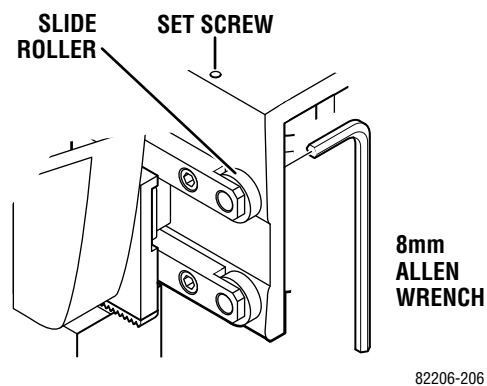

Figure 2-7.
2. Loosen the adjustment cam set screw and adjust the roller using an 8mm Allen wrench. See figure 2-7. To avoid any possible binding in the slide mechanism, adjust the roller on the opposite side of the table in the same manner (cam turned toward same end of table on each side).